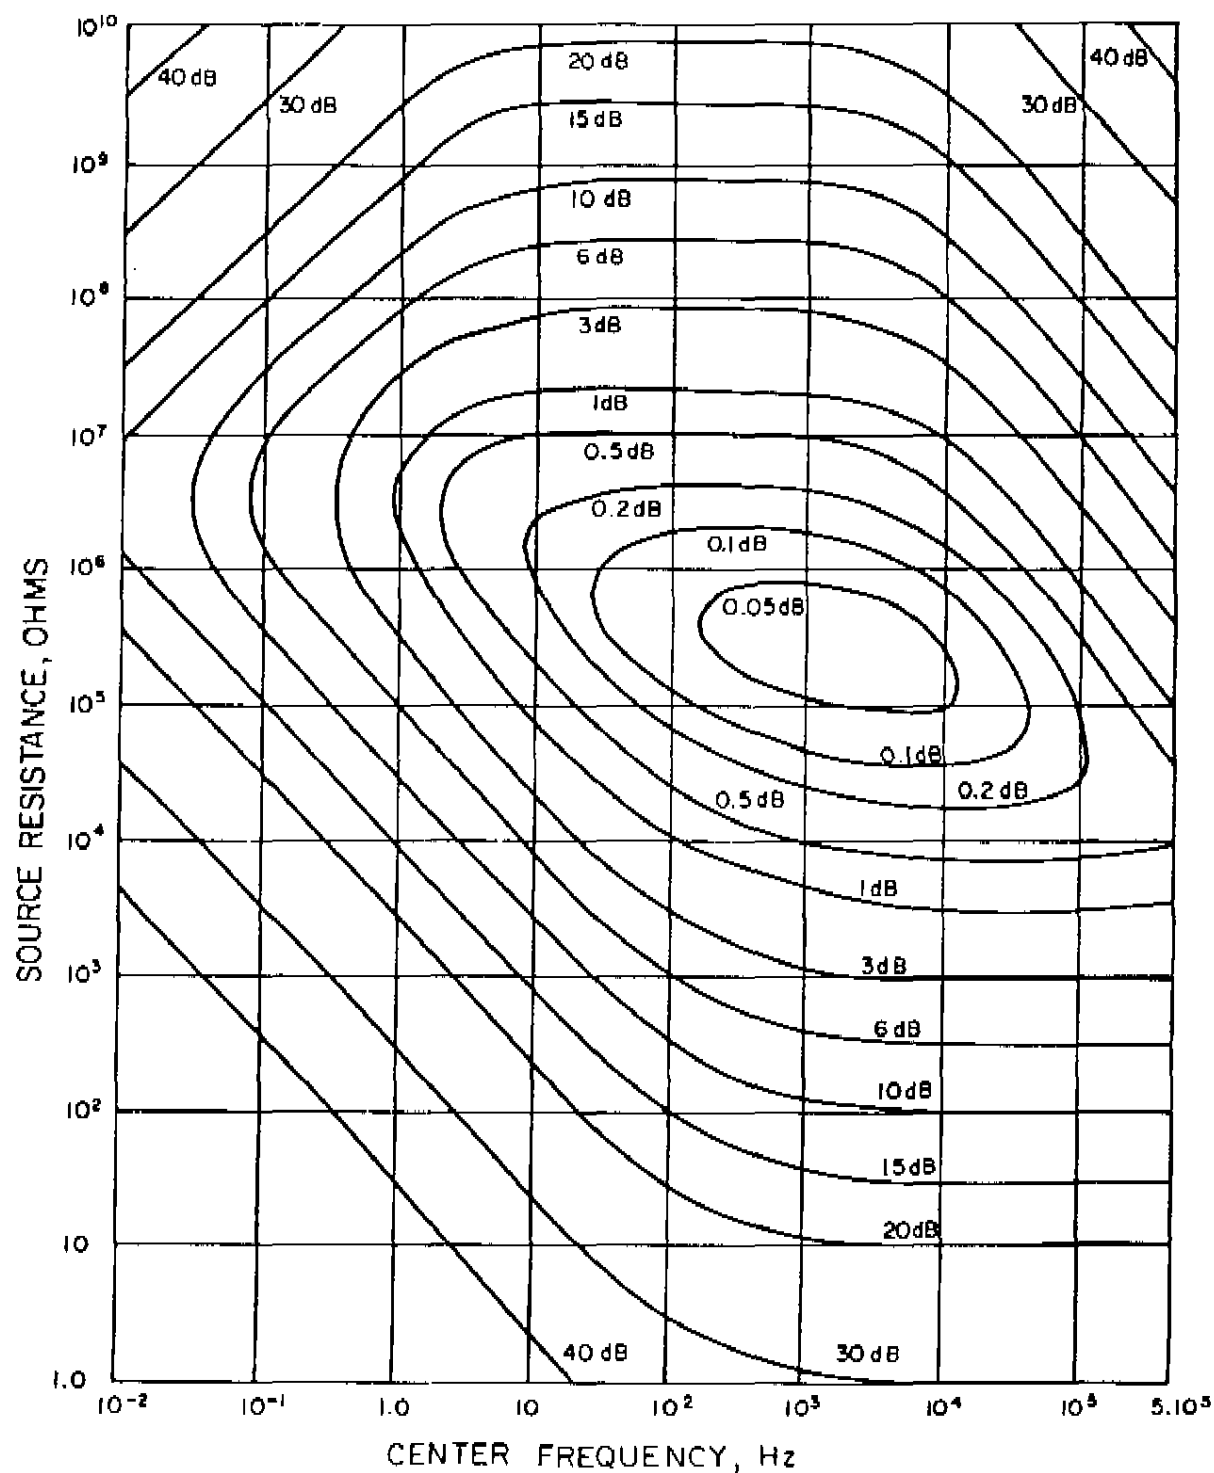

Figure III-7. TYPICAL NOISE FIGURE CONTOURS FOR MODEL 117, MODEL 116 (DIRECT) AND MODEL 119 (DIRECT)
Each amplifier has its own characteristic noise figure, which varies as a function of frequency and source resistance. These figures are obtained experimentally and plotted graphically. Figures III-7 through III-11 include typical sets of noise figure contours for the Models 116, 117, 118, and 119 operating in direct and transformer modes.
Notice from these equations that the bandwidth must be specified; usually determined by the external circuitry and/or the amplifier bandwidth. Figures III-7 through III-11 include response curves of the preamplifiers from which the bandwidth may be obtained (in the direct modes, the bandwidth is wider than the widest Tuned Amplifier Bandwidth). However, a more interesting place to determine noise level is at the output of the Tuned Amplifier. Because there is gain ahead of the Tuned Amplifier, its noise contribution referred to the input is negligible compared to that of the preamplifier. In computing the total equivalent input noise of the signal channel, the operator only need use a Δf as determined by the Selective Amplifier setting (with preamplifier limitations considered).
From Figure III-7, the noise figure for the Model 116 at a center frequency of 5 kHz and a source impedance of 10 ohms is 20 dB. Substituting E and this NF into equation (3), we get:
With a transformer inserted between the signal source and the amplifier input we can increase the effective source impedance to a value that reduces the noise figure to less than 0.1 dB. From Figure III-7, the source resistance should be about 200 kilohms. The transformer turns ratio required for this impedance increase is $\sqrt{R_2/R_1} = 141$. The thermal source noise at the amplifier input is equal to the noise generated by the 10 ohm source multiplied by the turns ratio. With a noise figure near zero, the total equivalent rms input noise is also equal to the noise generated by the 10 ohm source multiplied by the turns ratio, = 1.25 μ V rms. Although the numerical value of equivalent input noise is much larger than before, the signal-to-noise ratio is substantially increased. This can be seen by considering all of the transformed source signal voltage as appearing at the amplifier input terminals, possible because the Model 116's input resistance is much larger than 200 kilohms presented by the transformer; the signal-to-noise ratio is equal to the maximum possible value: $e_{sig}/(E \times \text{antilog NF}/20) \cong e_{sig}/E$, the noise contributed by the amplifier being negligible under the "near zero" noise figure conditions. In this example the transformer increases the signal-to-noise ratio by a factor of 10.